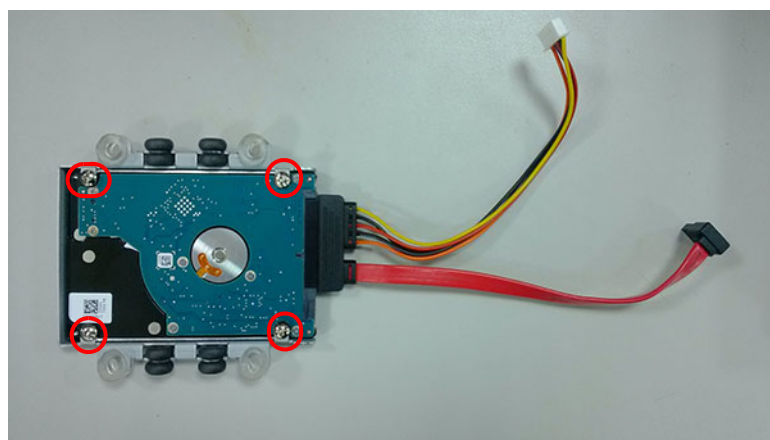

Figure 2.21
4. Take out 4 M3*4 screws, fix the HDD lock onto U type iron bracket, and insert the power cable. (See Fig 2.21)